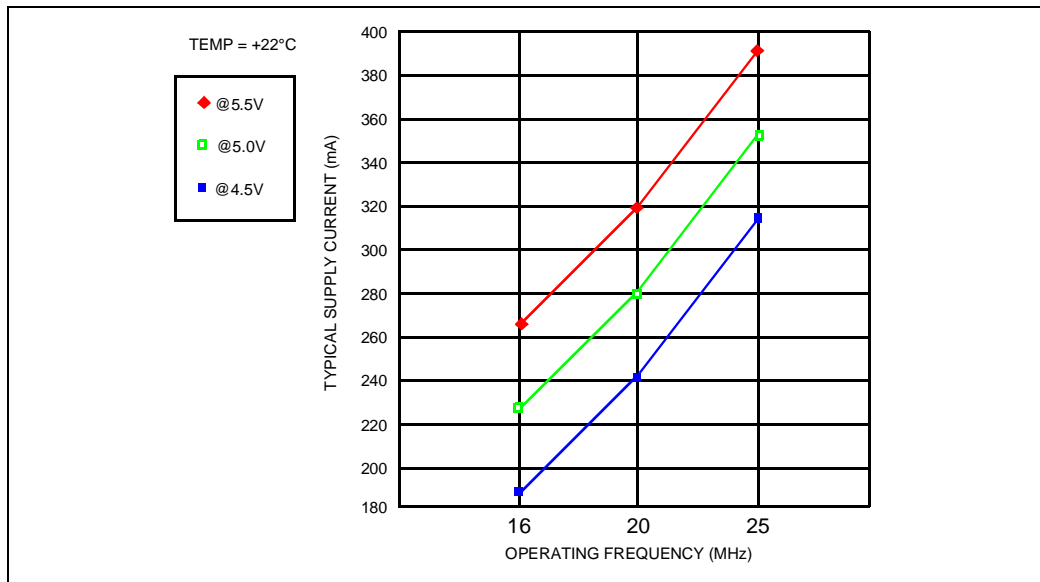
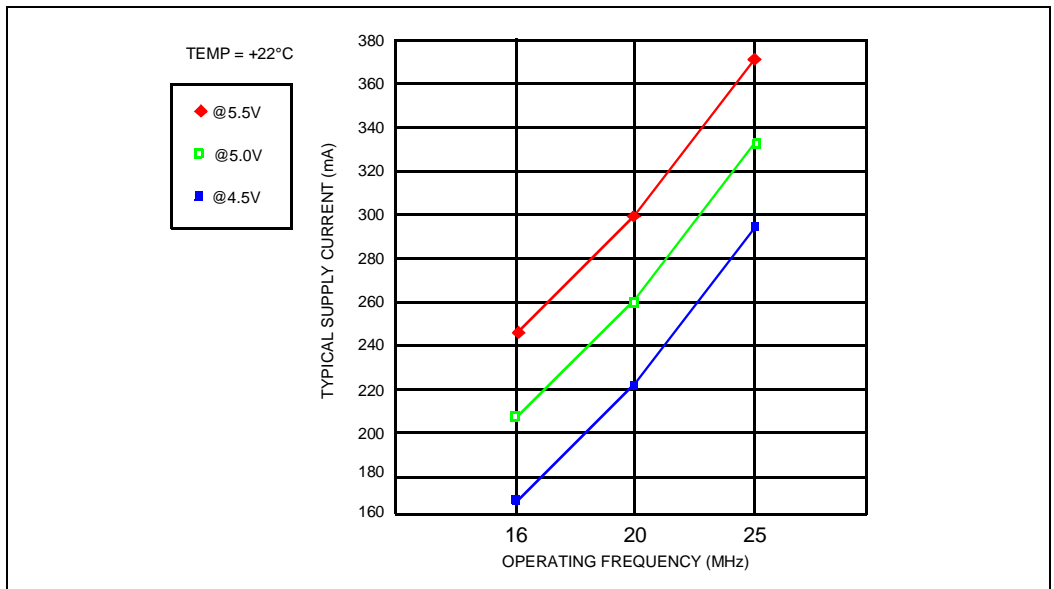
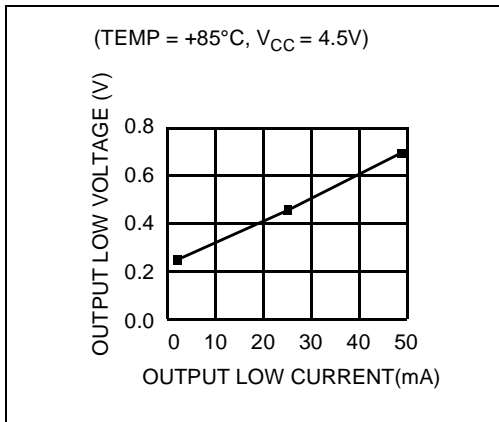
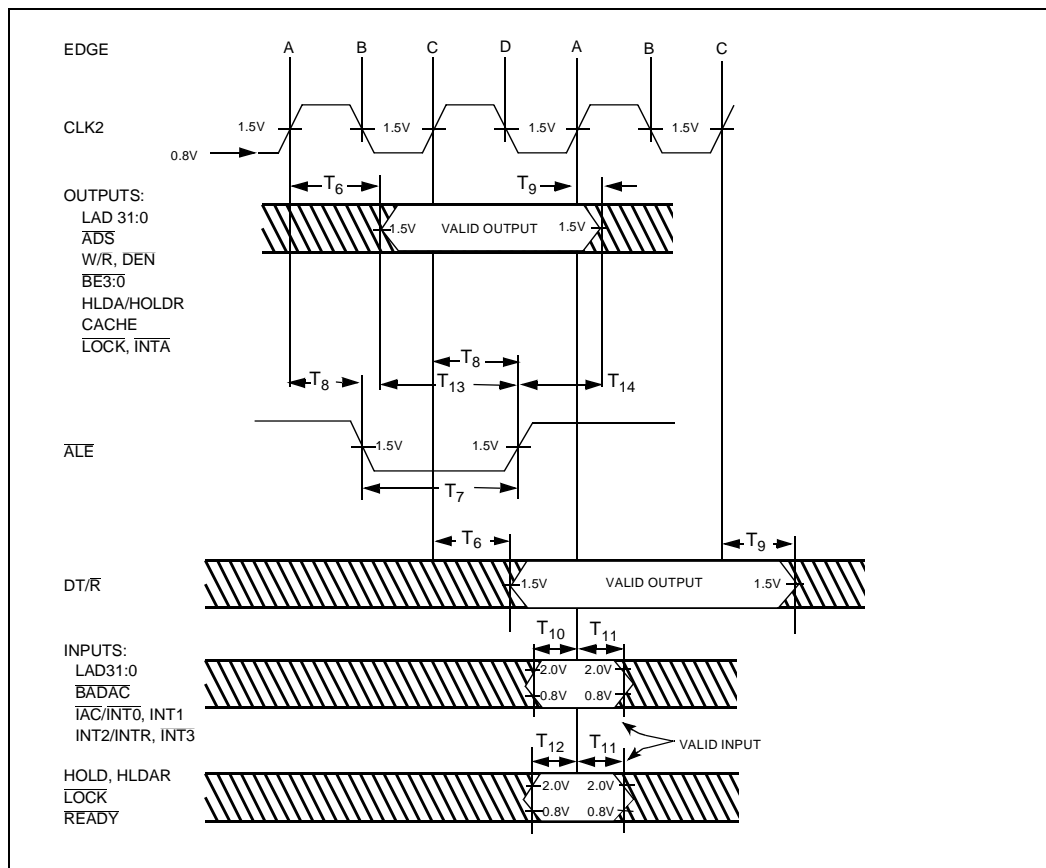

Figure 7. Typical Current vs. Frequency (Room Temp)
Figure 8. Typical Current vs. Frequency (Hot Temp)
Figure 9. Worst-Case Voltage vs. Output Current on Open-Drain Pins
Figure 13. Drive Levels and Timing Relationships for 80960MC Signals
Figure 7 shows typical supply current requirements over the operating temperature range of the processor at supply voltage ( $V_{CC}$ ) of 5 V. Figure 8 and Figure 9 show the typical power supply current ( $I_{CC}$ ) that the 80960MC requires at various operating frequencies when measured at three input voltage ( $V_{CC}$ ) levels and two temperatures.
Figure 12 illustrates the load circuit used to test the 80960MC's three-state pins; Figure 13 shows the load circuit used to test the open drain outputs. The open drain test uses an active load circuit in the form of a matched diode bridge. Since the open-drain outputs sink current, only the  $I_{OL}$  legs of the bridge are necessary and the  $I_{OH}$  legs are not used. When the 80960MC driver under test is turned off, the output pin is pulled up to  $V_{REF}$  (i.e.,  $V_{OH}$ ). Diode  $D_1$  is turned off and the  $I_{OL}$  current source flows through diode  $D_2$ .
- Measured at worst case frequency, VCC and temperature, with device operating and outputs loaded to the test conditions in Figure 12 and Figure 13. Figure 7, Figure 8 and Figure 9 indicate typical values.